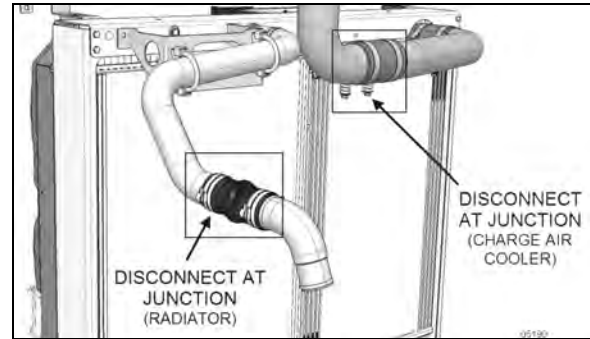

FIGURE 31: RADIATOR & CAC UPPER CONNECTION
- Disconnect the upper radiator pipe at the pipe junction between the radiator and the engine (Figure 31).